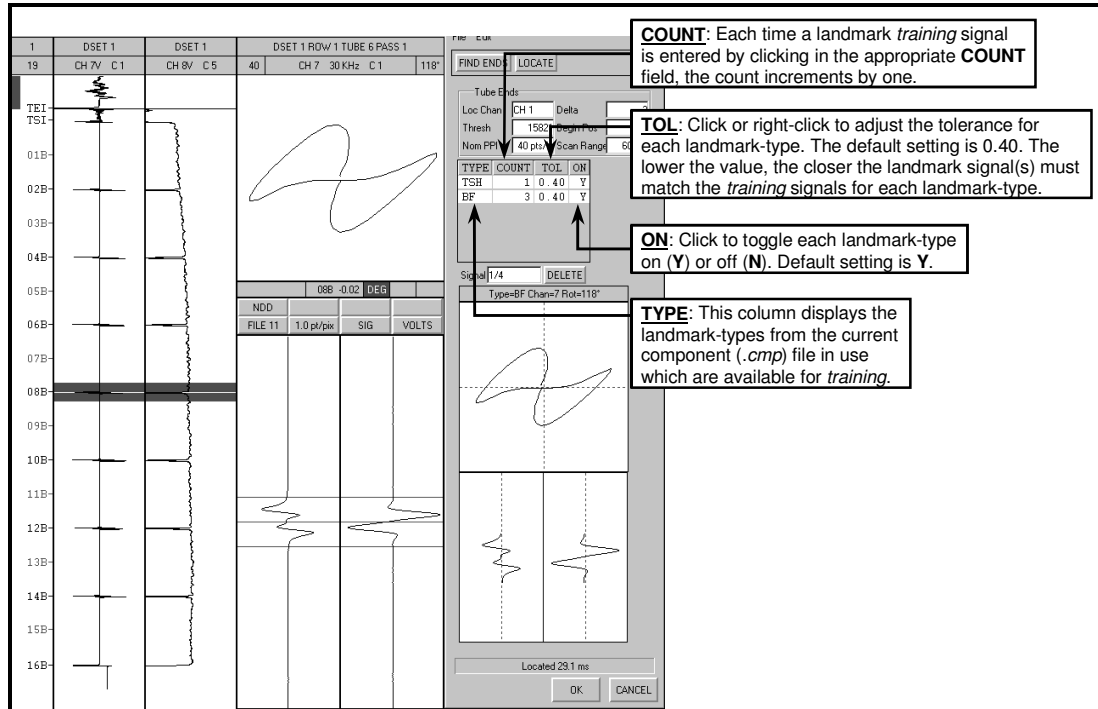

Figure 3-109. Auto Locate Dialog - Landmarks Training Section
The **Landmarks Training** section of the **Auto Locate** dialog shown in Figure 3-109 is discussed below. This section contains settings used to *train* the software to automatically recognize, locate, and label valid landmarks other than tube ends within each data file of a data set.
- ❑ **Auto Locate > Count:** The **Count** column displays an integer equivalent to the number of *training* signals, which have been provided to the software during the *training* process. To assign a *training* signal, center the desired landmark in the left-most Lissajous window and expanded chart on the **Main Analysis** screen using the desired eddy current channel, then **click** once in the appropriate **Count** field for that landmark. The **Count** field increments by one (1). For example in Figure 3-109, a baffle plate signal on channel #7 was centered in the expanded chart then the count field was clicked. This action caused the software to display the *training* signal in the Lissajous and expanded chart on the **Auto Locate** dialog as shown. Furthermore, the **Signal** field incremented by one (1). **Clicking** or **right-clicking** in the **Signal** field allows the user to review *training* signals which have been provided to the software during the *training* session. Additional *training* signals may be provided to the *training set* at anytime from any desired channel. **Clicking** the **Delete** button while a *training* signal is displayed deletes or clears the currently displayed *training* signal from the *training set*.
- ❑ **Auto Locate > TOL:** The **TOL** column displays the tolerance value for a given landmark type. In Figure 3-109, a **TOL** value of *0.40* is displayed which is the default **TOL** setting. **Clicking** in the **TOL** field for a given landmark-type increases the value by *0.01* while **right-clicking** decreases the value by the same. Holding down **Shift** before **clicking** or **right-clicking** the **TOL** field changes the value by *0.10*. The lower the value, the closer the given landmark signals must match the training signal for a given landmark. A higher value relaxes the tolerance.
Note in Figure 3-109 that **Auto Locate** has located and labeled the valid landmarks within the data file. This is obvious since the landmark labels are displayed along the landmark strip in the left-most strip of the **Main Analysis** screen. Landmarks that are present in the current data file are displayed in *white* while those that are not present are displayed in *red*. For example, baffle plate *04B* is present and labeled; however, baffle plate *05B* is not present and the software displays *05B* in *red* in the general location along the data file where this baffle plate would be if it were present.